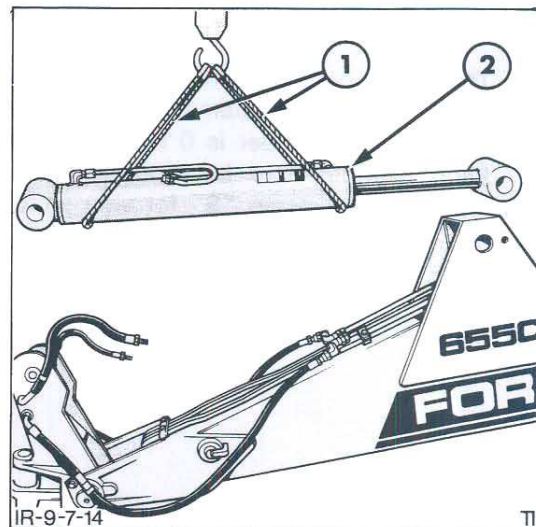

Figure 14
Ensure all residual pressures are relieved before disconnecting hydraulic connections. Use care in the handling of cylinders. Secure cylinders with a sling as shown in Figure 14 during removal and installation. Dropping or mishandling can cause damage to the surface of the rod or cylinder bore.
- Position a sling, as shown in Figure 14, around the cylinder or use other suitable lifting equipment to support the weight of the cylinder.